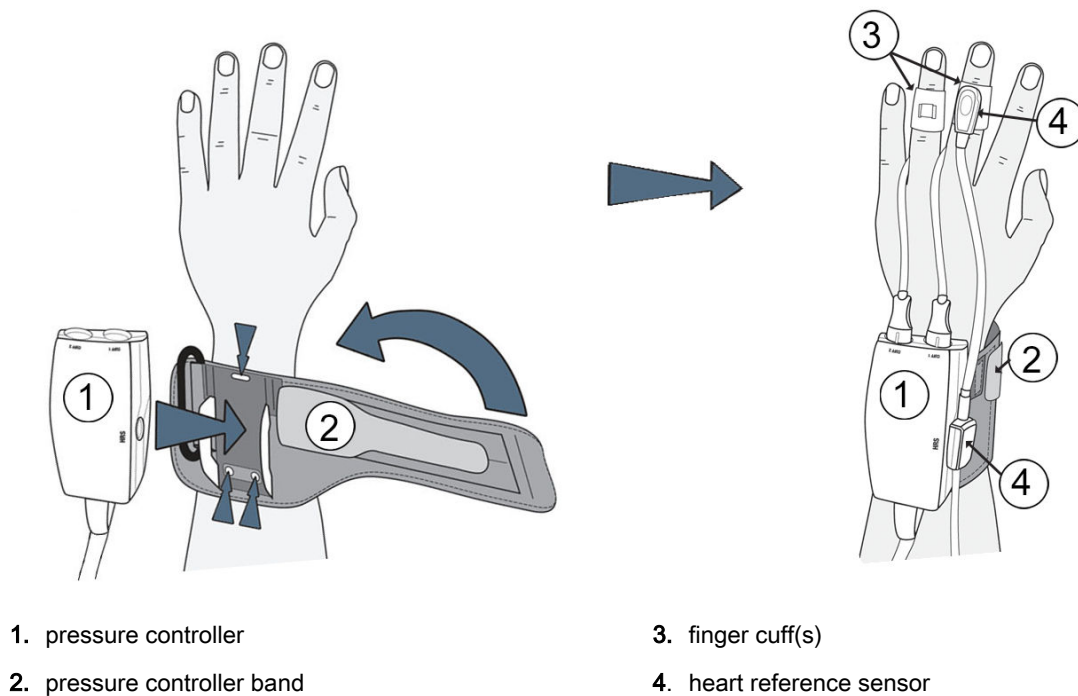

Figure 11-2: Pressure controller application
The pressure controller is worn on the patient's wrist and connects to the HemoSphere ClearSight module, HRS and finger cuff(s). See Figure 11-2 on page 193.
1. Wrap the pressure controller band around the patient's wrist. The non dominant hand is preferred for monitoring in awake patients. (Figure 11-2 on page 193, left)